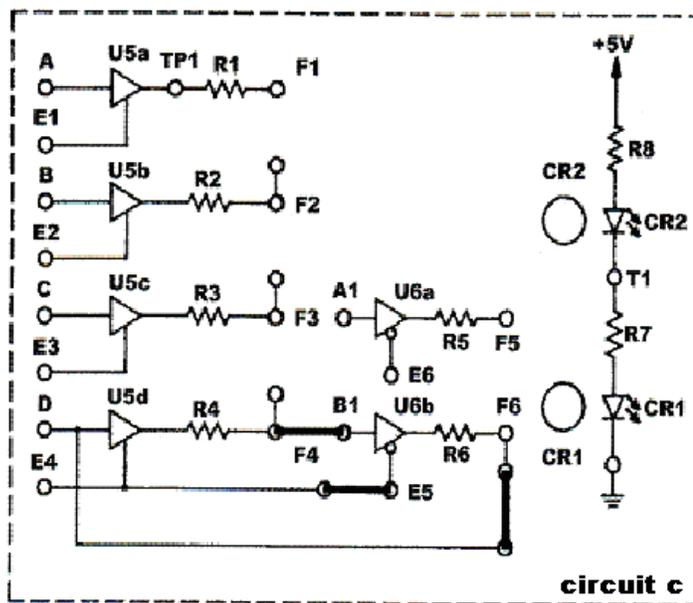
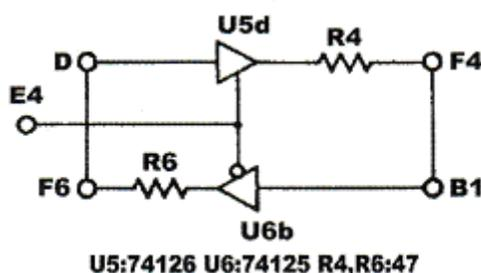

Fig. 2-35
Fig. 2-36
1. Insert connection clips according to Fig. 2-35 to construct the bidirectional transmission circuit shown in Fig. 2-36.